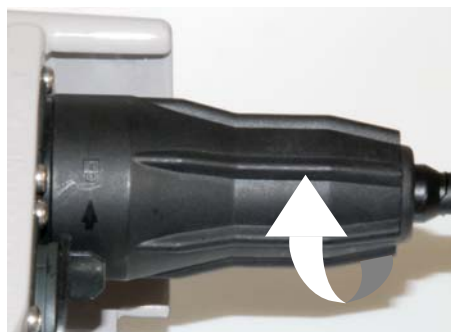

Figure 11
7. Slide the outer bayonet shell over the inner housing and turn the outer bayonet shell 1/4 turn clockwise, until it clicks into place. See Figure 11.